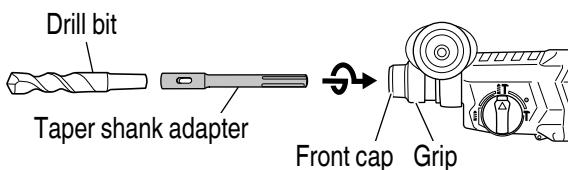
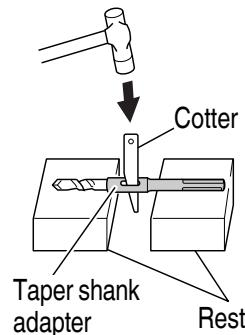

Fig. 23
Fig. 24
- (1) Mount the taper shank adapter to the rotary hammer. (Fig. 23)
- (2) Mount the drill bit (taper shank) to the taper shank adapter. (Fig. 23)
- (3) Turn the switch ON, and drill a hole in prescribed depth.
- (4) To remove the drill bit (taper shank), insert the cotter into the slot of the taper shank adapter and strike the head of the cotter with a hammer supporting on the rests. (Fig. 24)